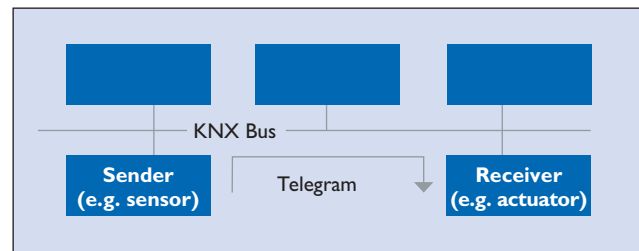

Figure 4. Sensor/actuator principle
- Another important feature of the KNX bus system is its decentralised structure: there is no need for a central control unit, because the “intelligence” of the system is spread across all of its devices. Centralised units are possible, however, for realising very specialised applications. Every device has its own microprocessor. A major advantage of KNX’s decentralised structure is that, if one device fails, the others continue to function. Only those applications dependent on the failed device will be interrupted. Generally in a KNX system, devices fall into three categories: system devices (power supply, programming interface, etc.), sensors, and actuators. Sensors are devices that detect events in the building (e.g. someone pressing a button, someone moving, a temperature falling above or below a set value, etc.), convert these into telegrams (data packets), and send them along the bus network. Devices that receive telegrams and convert the commands embedded in them into actions are known as actuators. Sensors issue commands, while actuators receive them (Fig. 4).